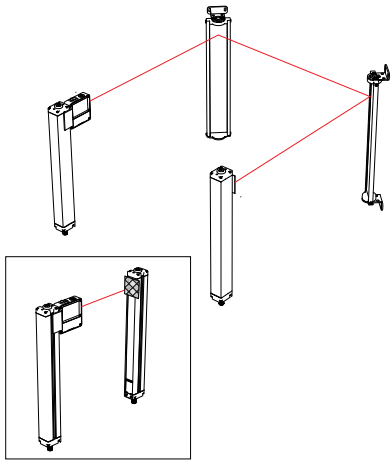

Figure 10. Optical alignment using the LAT-1-SGS
**Note:** A LAT-1-SGS Laser Alignment Tool is very helpful by providing a visible red dot along the optical axis. See Figure 10 on p. 28 and Banner Safety Applications Note SA104 (p/n 57477) for more information.